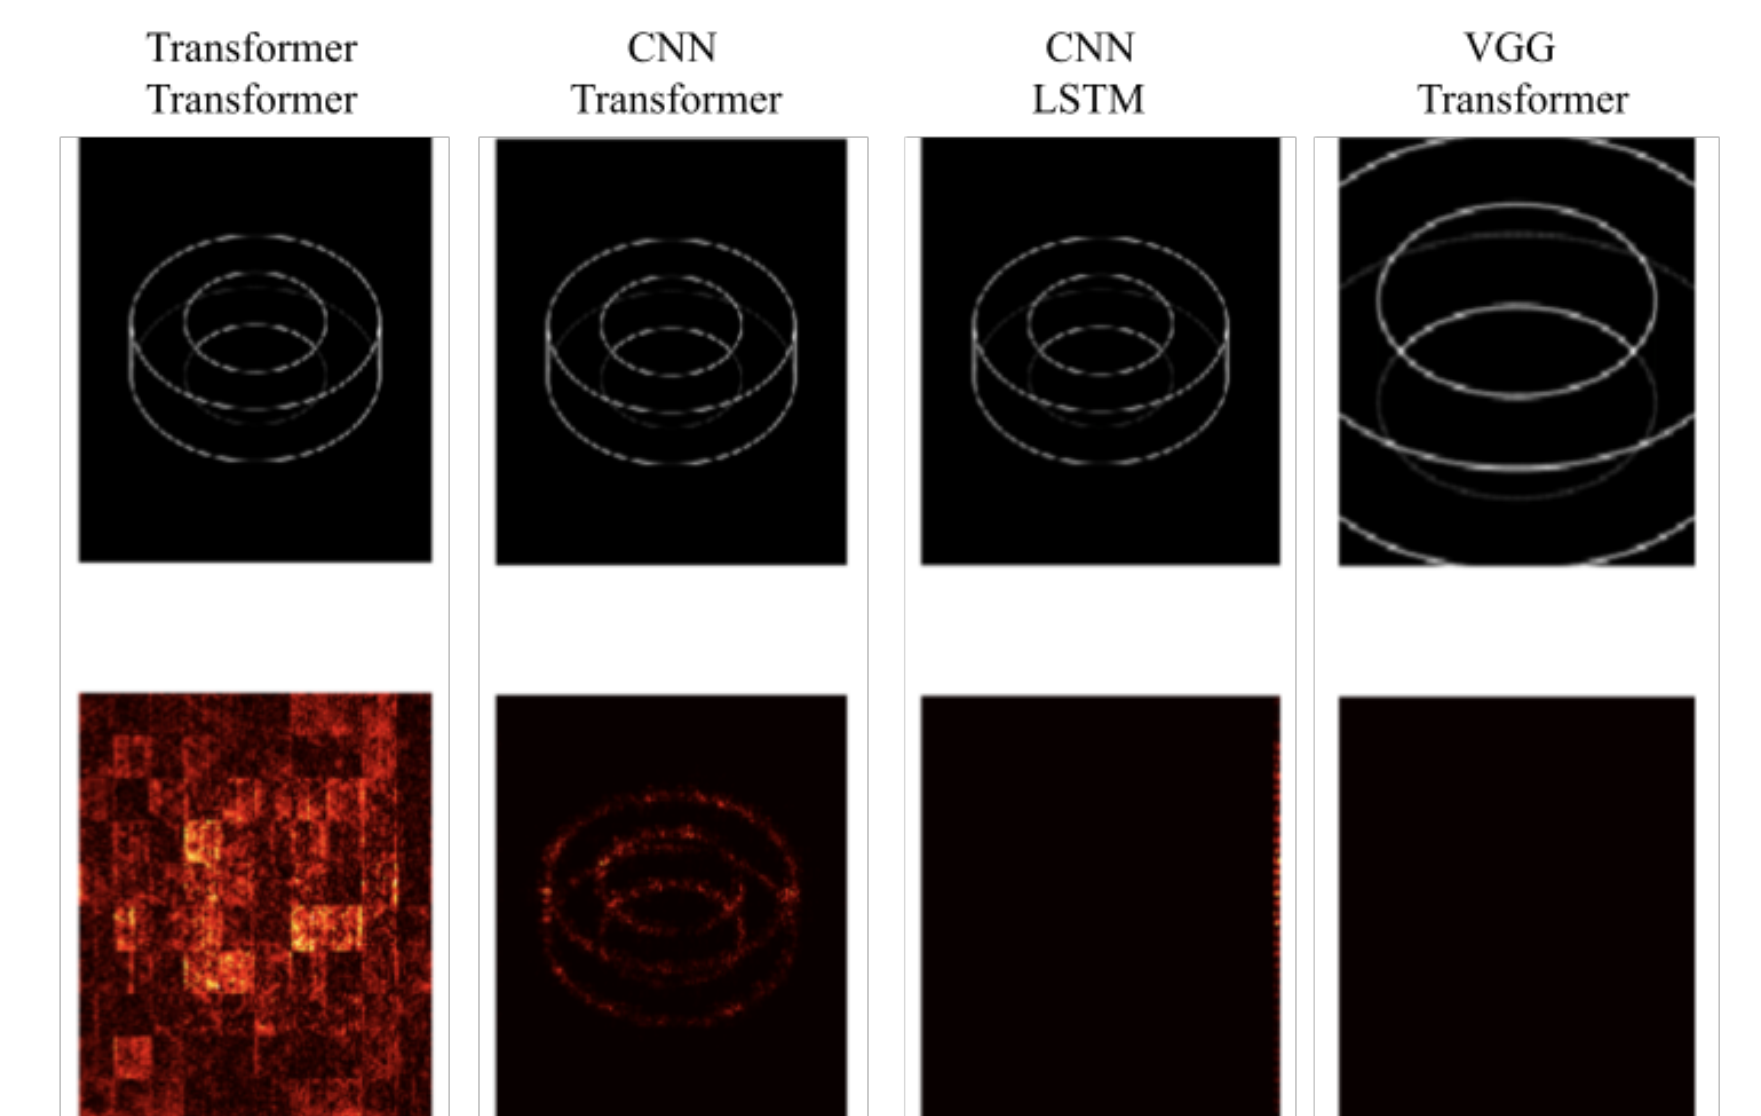

Figure 12. Comparative Saliency Visualizations
- The saliency visualizations in Figure 12 highlight the ability of the CNN-Transformer model to recognize the attributes of the input image that correspond to a sketch.